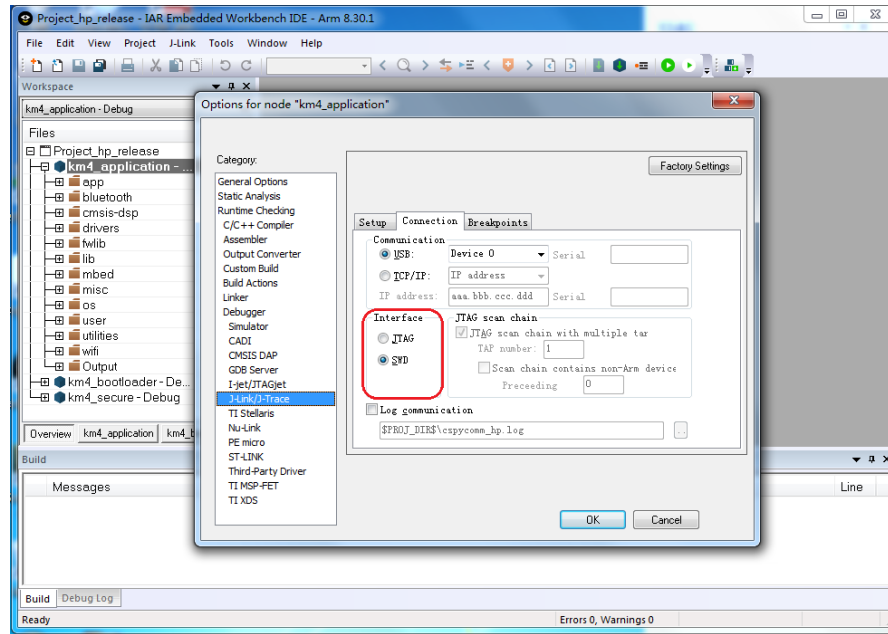

Fig 1-12 J-Link interface setup
- b) Click **Debugger > J-Link/J-Trace > Connection > Interface**, and choose "SWD", as Fig 1-12 shows.